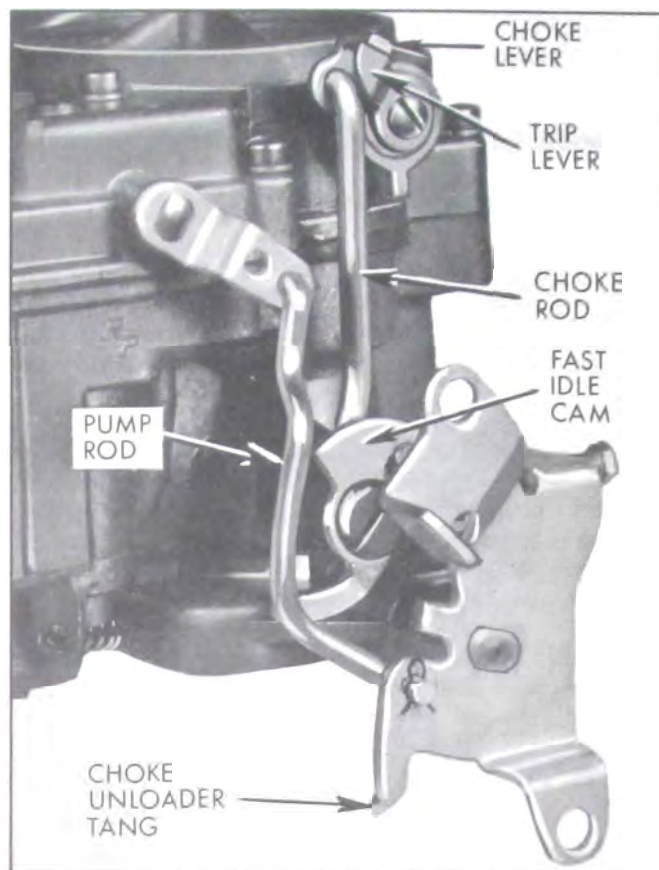

Figure 3-32—Choke Linkage
16. Install choke rod into choke lever and fast idle cam. Install fast idle cam screw and tighten securely. See Figure 3-32 for proper installation.